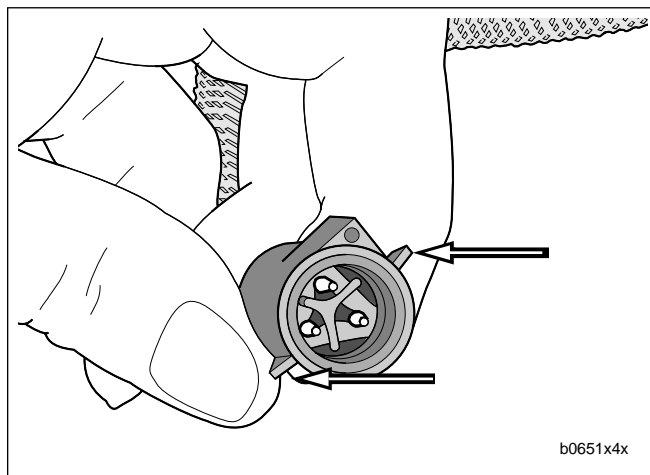

Figure 4-89. Tabs on TP Sensor Connector [88A]
4. See Figure 4-89. Attach throttle position sensor connector [88]. Slots on female connector [88B] must fully engage tabs on male connector housing [88A].